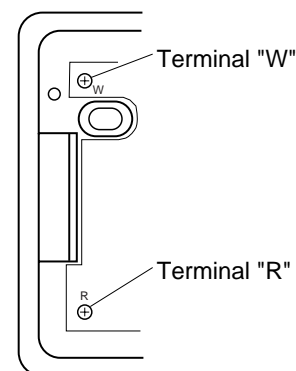

Figure 33 - Thermostat Base Terminal "W" and "R"
7. Connect one bare wire end to each terminal ("W" and "R") of the thermostat base (see Figure 33).